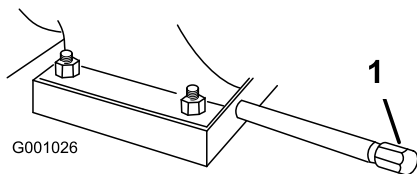

Figure 43
1. Clean the area around the oil drain cap (Figure 43).